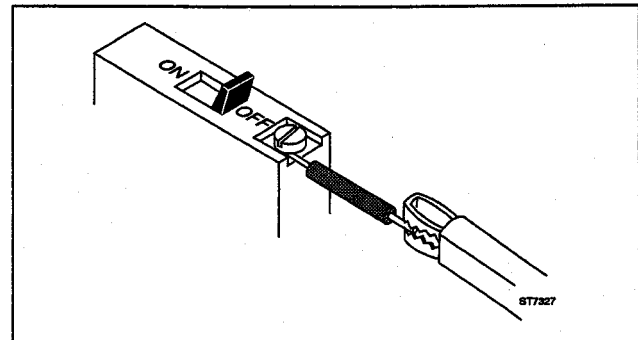

Figure 5.8 Connecting the wires
MAKE CONNECTIONS TO CIRCUIT BREAKERS BY FIRST TURNING THE CIRCUIT BREAKER OFF. THEN CONNECT THE ALLIGATOR CLIP TO THE BREAKER OUTPUT TERMINAL VIA A SHORT PIECE OF INSULATED WIRE AS SHOWN IN FIGURE 5.8.
① Make sure the circuit breaker is turned off. Connect the ScopeMeter to two circuit breakers and the neutral buss bar as shown in Figure 5.8. Use the alligator clips for the red and grey scope probes and black multimeter test lead.
② **LCD** + **ON/OFF**